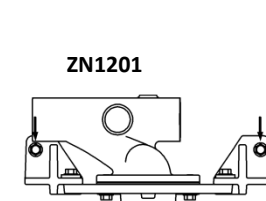

Figure 8c
- For ZN1201, see **Figure 8c**.